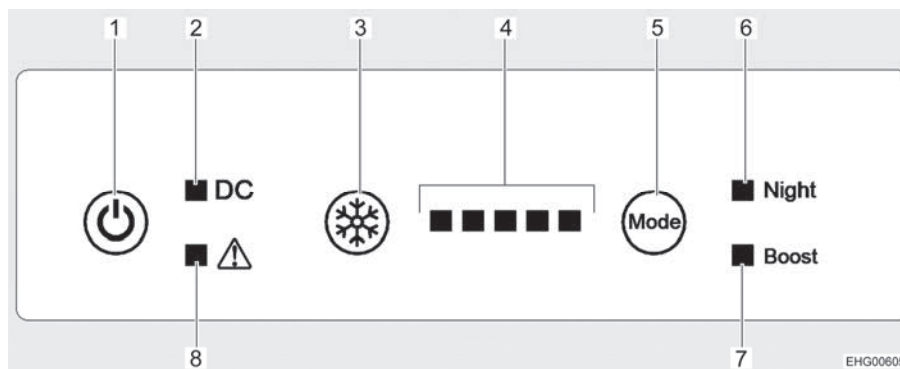

Fig. 132 Operating controls (refrigerator)
Switching on: ■ Press and hold the On/Off button (Fig. 132,1) for 1 second. The buzzer sounds, all indicator lamps light up (light test) and go out after approx. 10 seconds. Only the operation indicator lamp (Fig. 132,2) remains lit, indicating that the refrigerator is working. The compressor starts after a short delay.
■ Press and hold the On/Off button (Fig. 132,1) for 10 seconds. The buzzer sounds and all indicator lamps go out.
Setting the cooling level: ■ Press the button for cooling setting (Fig. 132,3) repeatedly until the desired cooling level is displayed. The more indicator lamps (Fig. 132,4) are lit, the higher the cooling power (and also the energy consumption).
Switching on the night mode: ■ Press the operating mode button (Fig. 132,5) repeatedly until the night mode indicator lamp (Fig. 132,6) is lit. The refrigerator is now working in night mode.
Switching off the night mode: ■ Press the operating mode button (Fig. 132,5) repeatedly until the night mode indicator lamp (Fig. 132,6) goes out. The refrigerator is working in normal mode again.
Switching on the boost mode: ■ Press the operating mode button (Fig. 132,5) repeatedly until the boost mode indicator lamp (Fig. 132,7) is lit. The refrigerator is now working in boost mode.
- Press the operating mode button (Fig. 132,5) repeatedly until the boost mode indicator lamp (Fig. 132,7) goes out. The refrigerator is working in normal mode again.